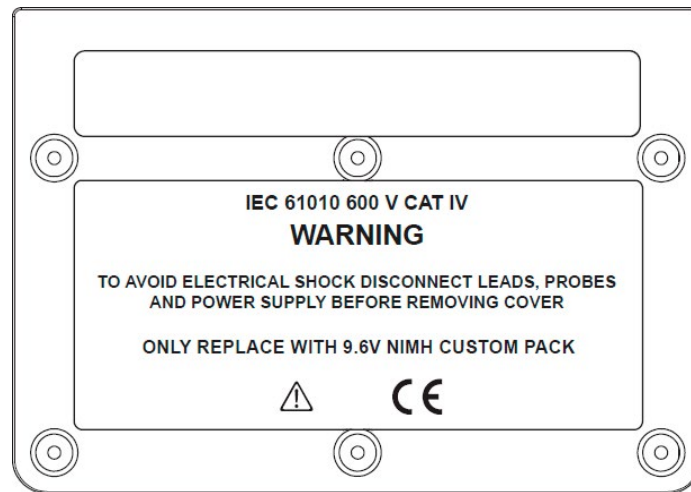

Figure 7-1
2. The cover is held in place by six screws, as shown in Figure 7-1. Remove the covers for these screws and remove the screws with a Phillips screwdriver.